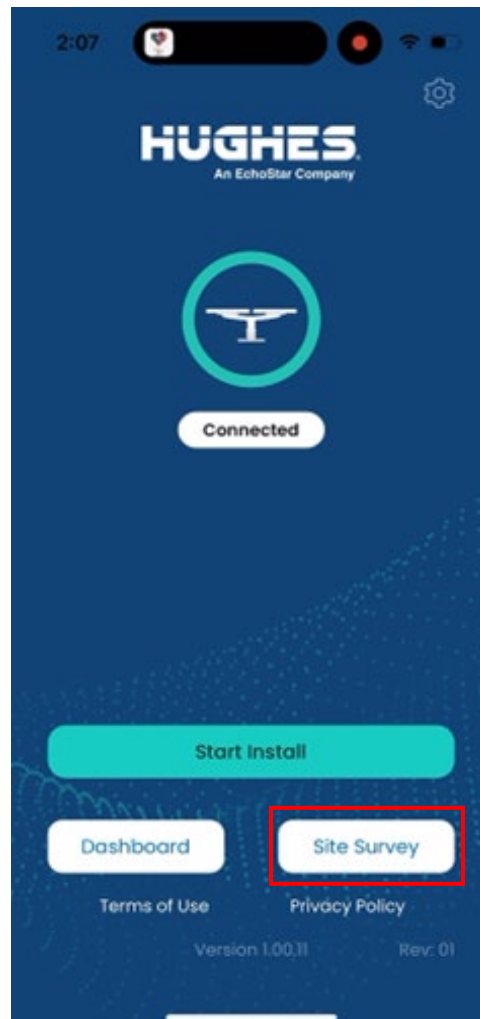

Figure 78: Start Survey button
1. Launch the app on the smartphone and click **Start Survey**, as shown in Figure 78.